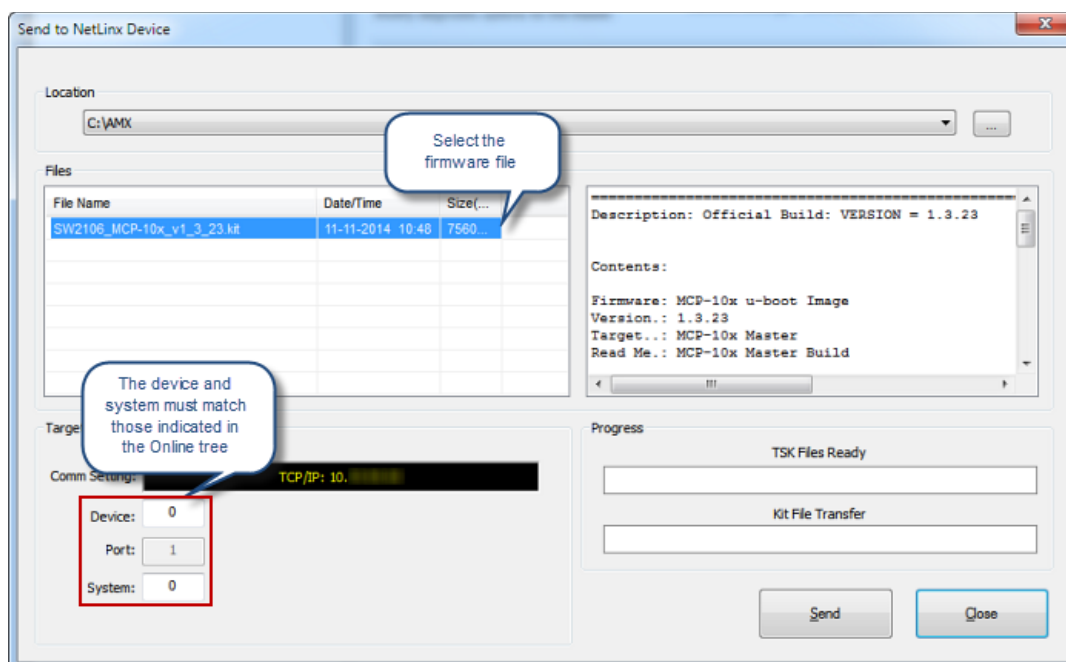

FIG. 37 Send to NetLinX Device dialog (showing on-board MCP-106 firmware update)
- Note that the *Port* field is disabled (FIG. 37).